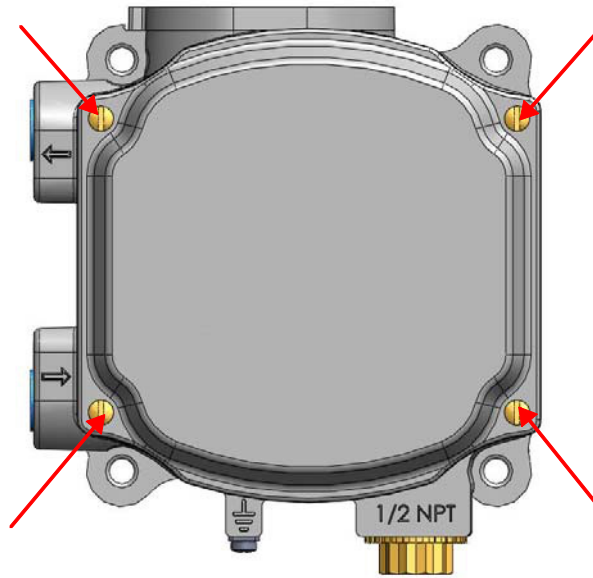

Figure 23 - Front Cover
1. Loosen the four (4) cover screws and remove the SVi1000 cover (Figure 23).